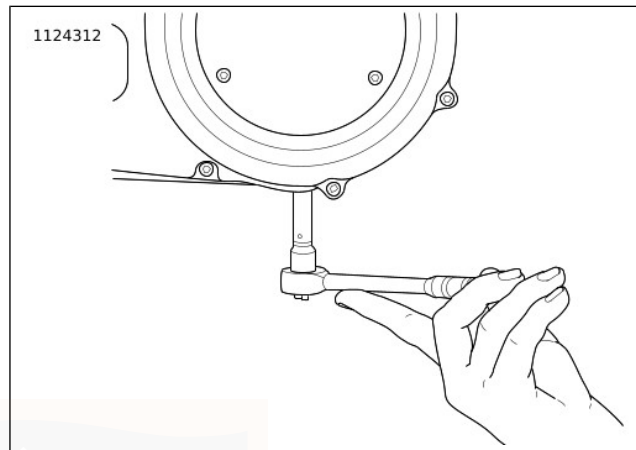

Figure 67. Removal/Installation of Chaincase Drain Plug
3. See Figure 67. Drain primary chaincase.